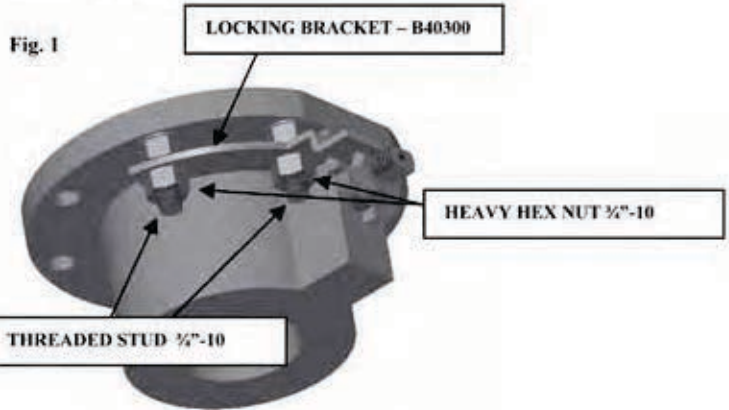

Fig. 2
3. Insert the Spring inside the BOV Adapter and secure everything to bottom outlet valve stem with a Hex Bolt $7/16-20 \times 2 \frac{1}{2}$ " (see Fig.2).